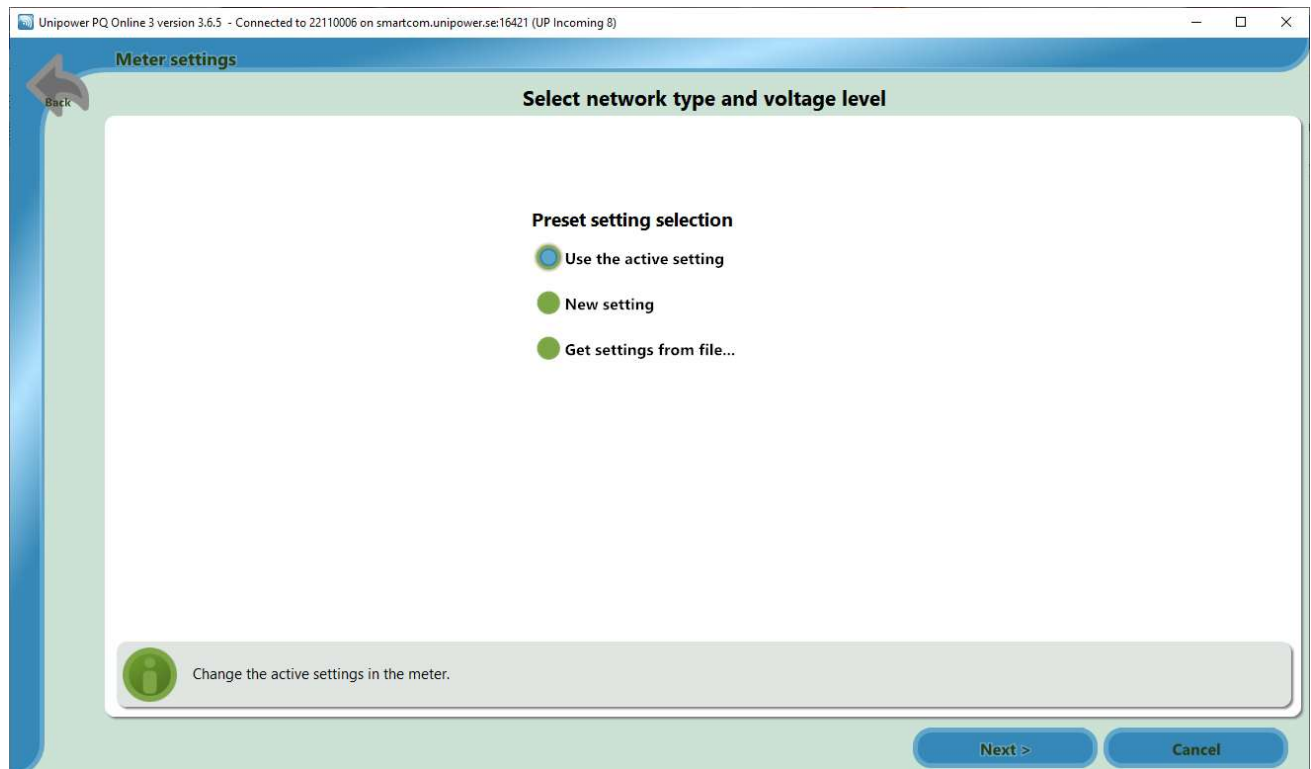

Figure 56
- Select either to create new settings, modify the current settings or get settings from file see Figure 56 below.